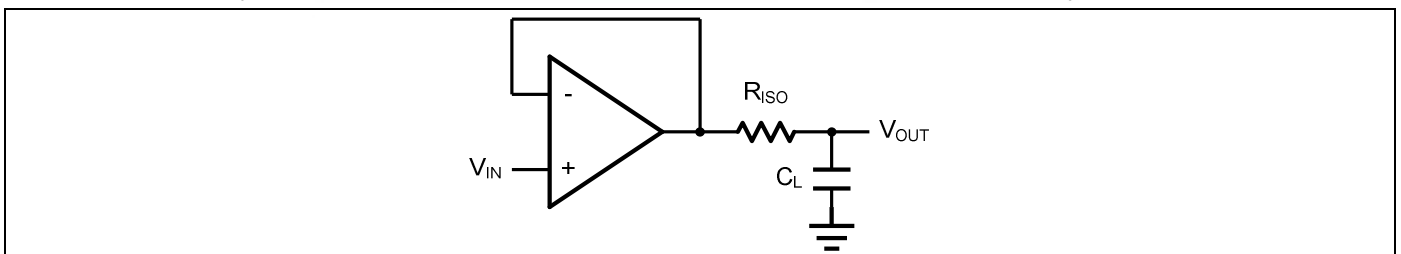
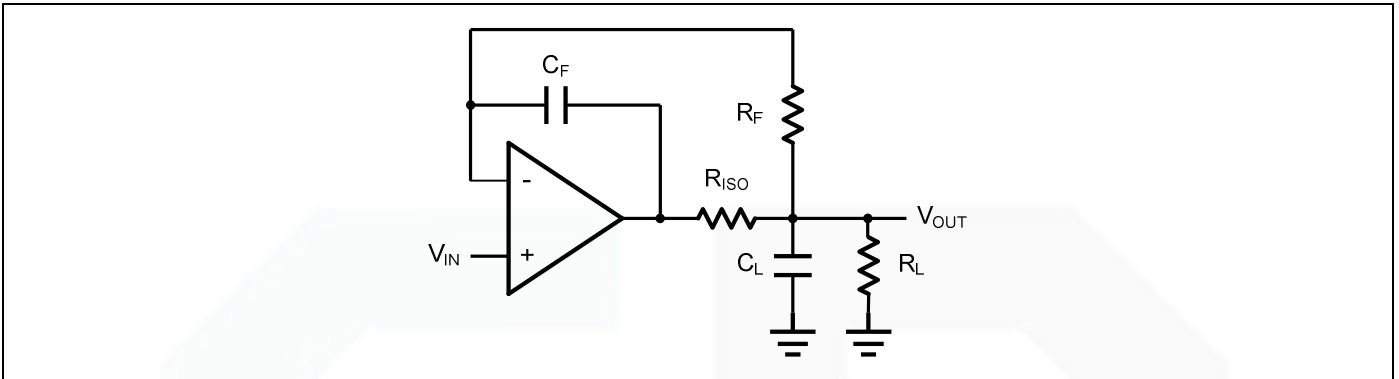

Figure 2. Indirectly Driving a Capacitive Load Using Isolation Resistor
Figure 3. Indirectly Driving a Capacitive Load with DC Accuracy
The GS321A/358A family is optimized for bandwidth and speed, not for driving capacitive loads. Output capacitance will create a pole in the amplifier's feedback path, leading to excessive peaking and potential oscillation. If dealing with load capacitance is a requirement of the application, the two strategies to consider are (1) using a small resistor in series with the amplifier's output and the load capacitance and (2) reducing the bandwidth of the amplifier's feedback loop by increasing the overall noise gain. Figure 2. shows a unity gain follower using the series resistor strategy. The resistor isolates the output from the capacitance and, more importantly, creates a zero in the feedback path that compensates for the pole created by the output capacitance.
The circuit in Figure 3 is an improvement to the one in Figure 2.  $R_F$  provides the DC accuracy by feed-forward the  $V_{IN}$  to  $R_L$ .  $C_F$  and  $R_{ISO}$  serve to counteract the loss of phase margin by feeding the high frequency component of the output signal back to the amplifier's inverting input, thereby preserving the phase margin in the overall feedback loop. Capacitive drive can be increased by increasing the value of  $C_F$ . This in turn will slow down the pulse response.